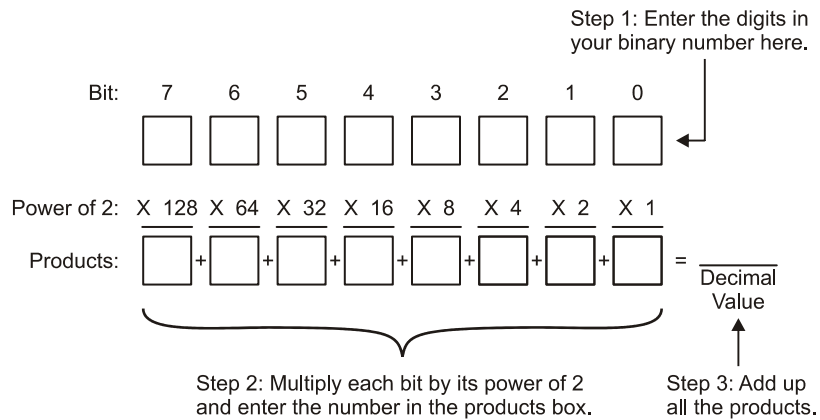

Figure 2-2
Figure 2-2 shows how to convert a binary number with up to 8 bits (a byte) to its corresponding decimal value.
- ✓ Hand-calculate the value using the steps shown in Figure 2-2.